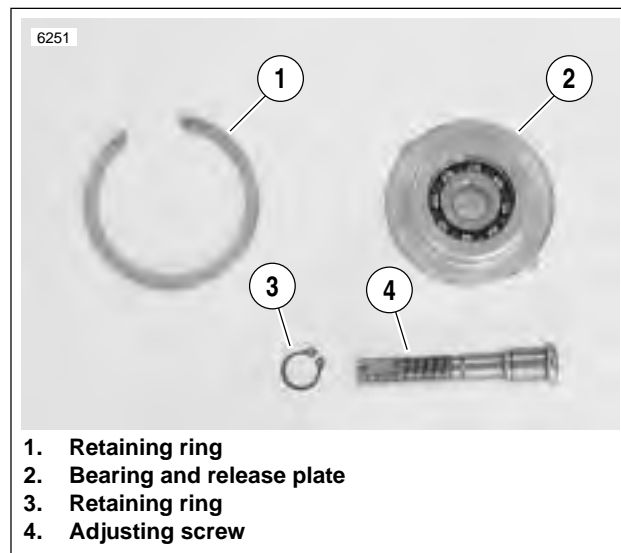

Figure 6-16. Adjusting Screw Assembly
- b. See Figure 6-16. Secure the adjusting screw assembly with large retaining ring.
11. See Figure 6-16. Remove and disassemble adjusting screw assembly.
- a. See Figure 6-16. Place bearing inside release plate. Insert adjusting screw through bearing and release plate. Secure with **new** retaining ring.
- b. See Figure 6-16. Secure the adjusting screw assembly with retaining ring.